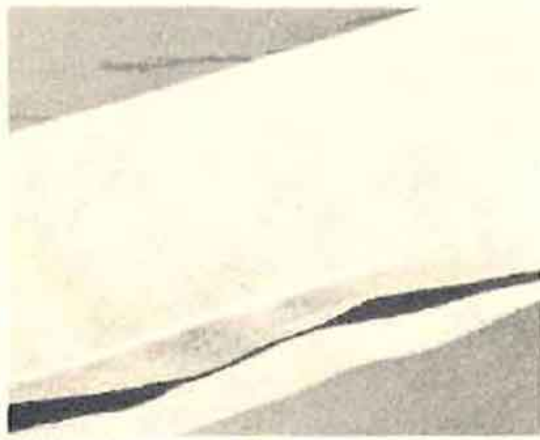

FIGURE 46
**FLAT FELL** — For Play Clothes — blouses, undergarments. Take full seam allowed  $\frac{3}{8}$ ",  $\frac{1}{2}$ " or  $\frac{5}{8}$ " — place wrong sides of material together. Stitch. Trim under side of seam to  $\frac{1}{8}$ " as shown in Figure 46. Turn edge of top side  $\frac{1}{8}$ " or  $\frac{1}{4}$ " depending on size of seam desired. Pin or baste, Figure 47, and stitch on folded edge as in Figure 48.